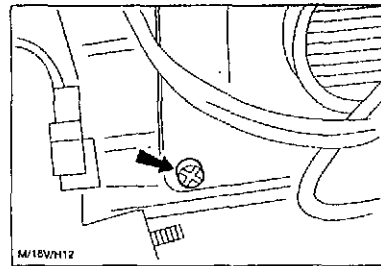

Fig. 14 — Radiator Drain Cock (Typical Ford Vehicle Type shown)
2. Remove the radiator expansion/ degas tank filler cap, then open the radiator drain cock (Fig. 14), where fitted, or detach the bottom radiator hose.